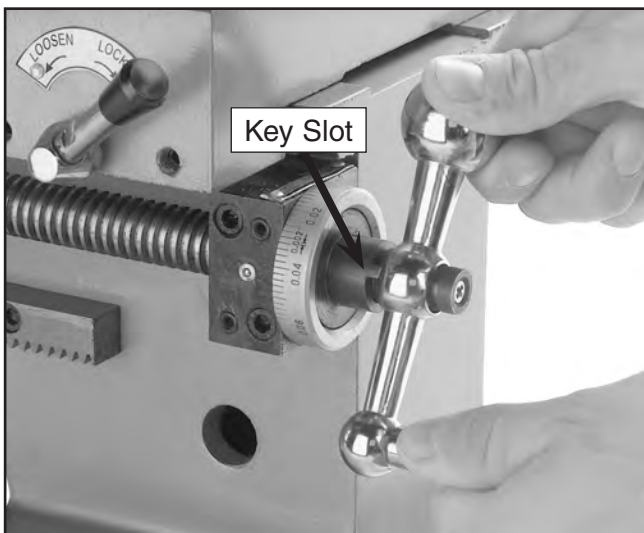

Figure 6. The key is engaged with the hand crank.
2. The hand crank has a key slot on one side as shown in **Figure 6**. Slide the hand crank onto the end of the leadscrew, key slot first.